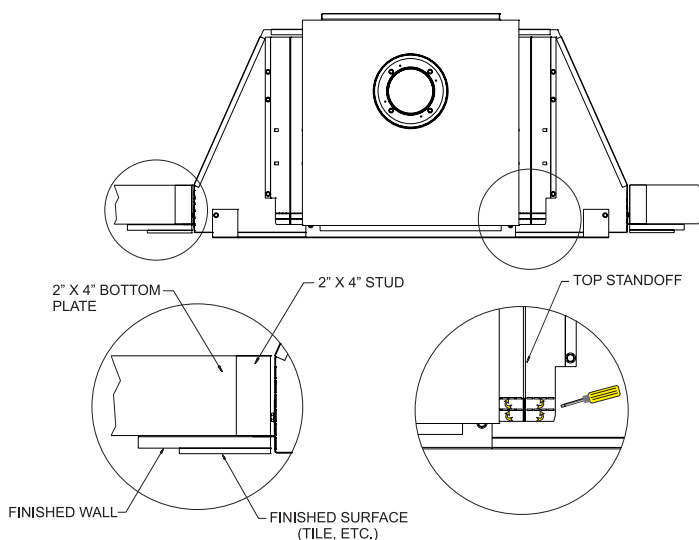

Figure 10B
2. Frame in fireplace with a header across the top. It is important to allow for finished face when setting the depth of the frame. See Figure 10B.